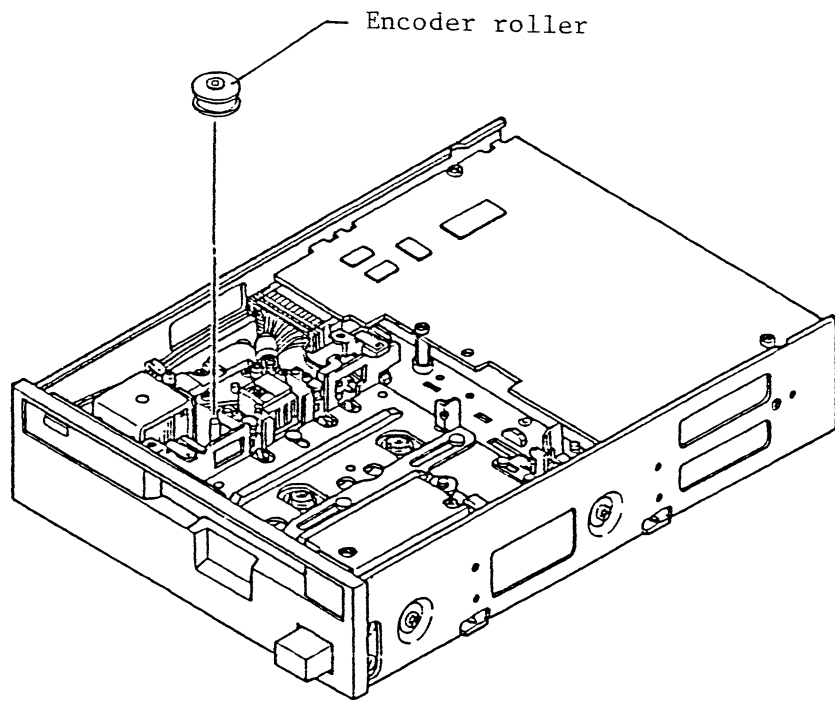

Fig.443 Replacement of encoder roller
(2) Replacement procedure
- (d) Extract the encoder roller from the shaft of the encoder Ass'y. (Fig. 443)